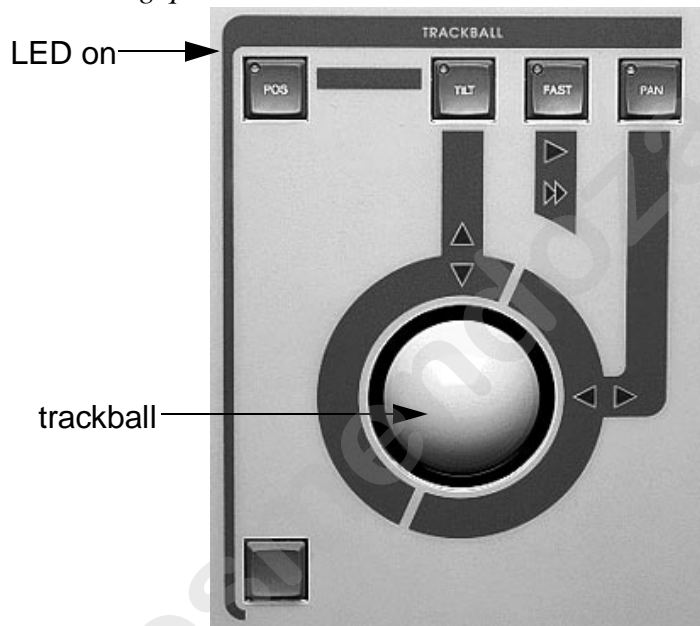

Figure 5.9. TRACKBALL Group
2. Press the <POS> key in the TRACKBALL group to enable positioning (LED is on for positioning mode) with the trackball. Refer to Figure 5.9.